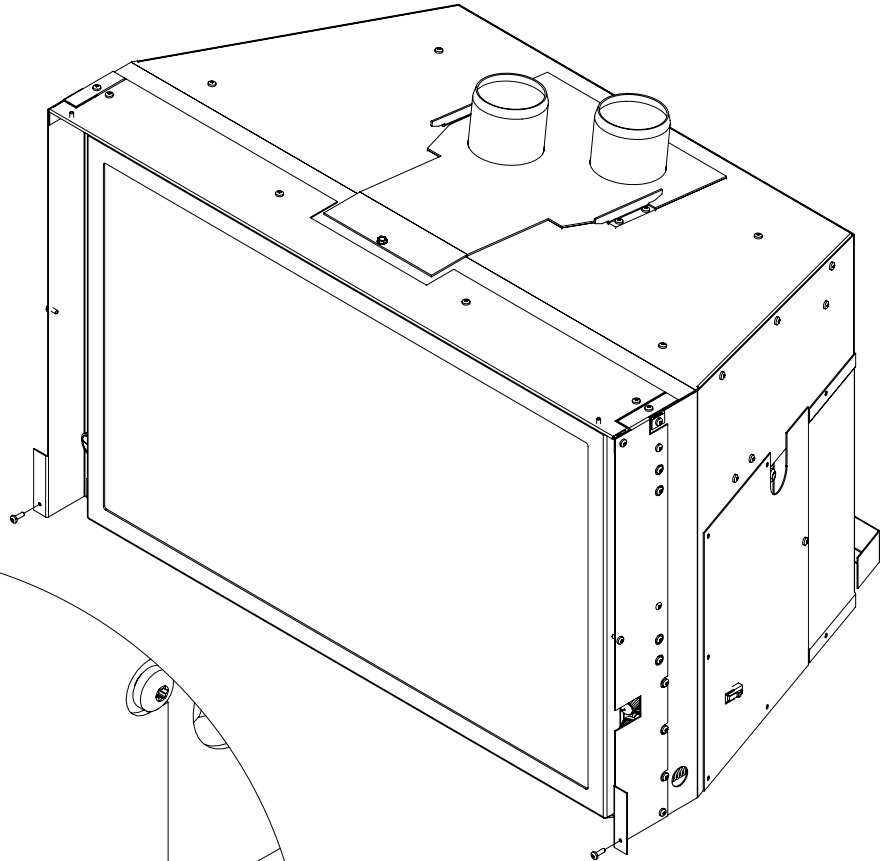

Figure 31: Trimmable Panel Screw Install.
1. Using the supplied hardware install a Trimmable Panel Bracket, on its short leg, onto each side of the stove using a T-20 Torx screwdriver. See Figure 31 for the screw location and bracket orientation.